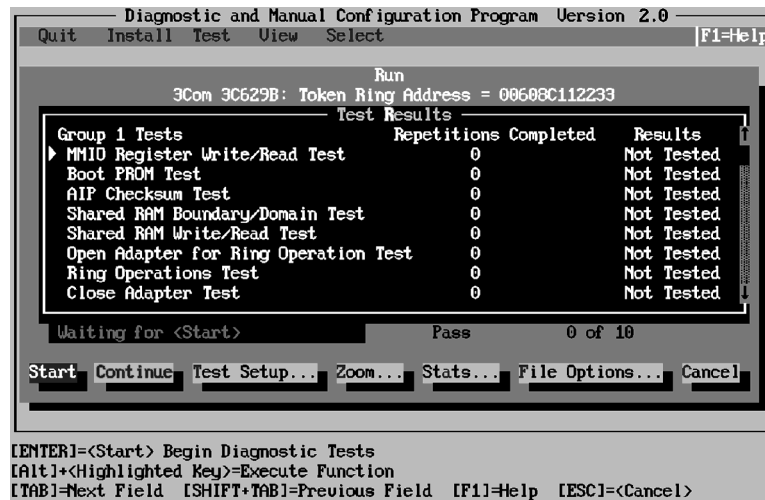

Figure 5-4. Run Tests Dialog Box
The Run Tests dialog box appears, as shown in Figure 5-4.
1. Choose **Test Setup** in the **Test** menu on the adapter selection screen or the **<Test Setup>** command button in the **Run Tests** dialog box shown in **Figure 5-4**.
If any test fails, you can get additional information by highlighting the test that failed in the Run Tests dialog box shown in Figure 5-4, and pressing [Enter]. You can also highlight the <Zoom> command button and press [Enter]. The program notifies you of the error and suggests actions you can take to solve the problem.